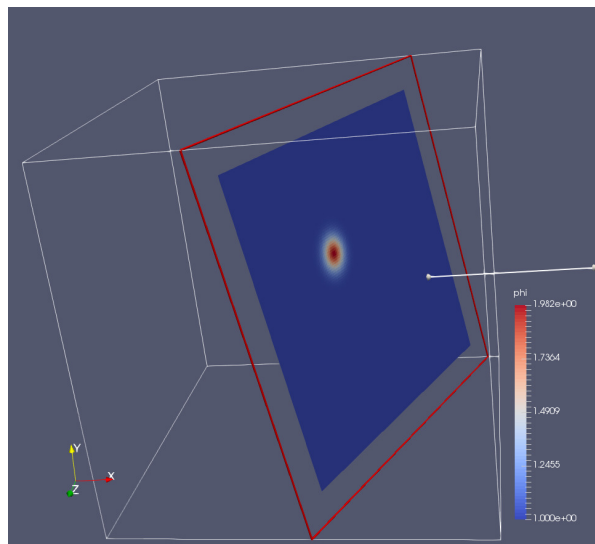

Figure 9.3: Plotfile image generated with ParaView
7. You can play with the Plane Parameters to define a plane of data to view, as shown in Figure 9.3.